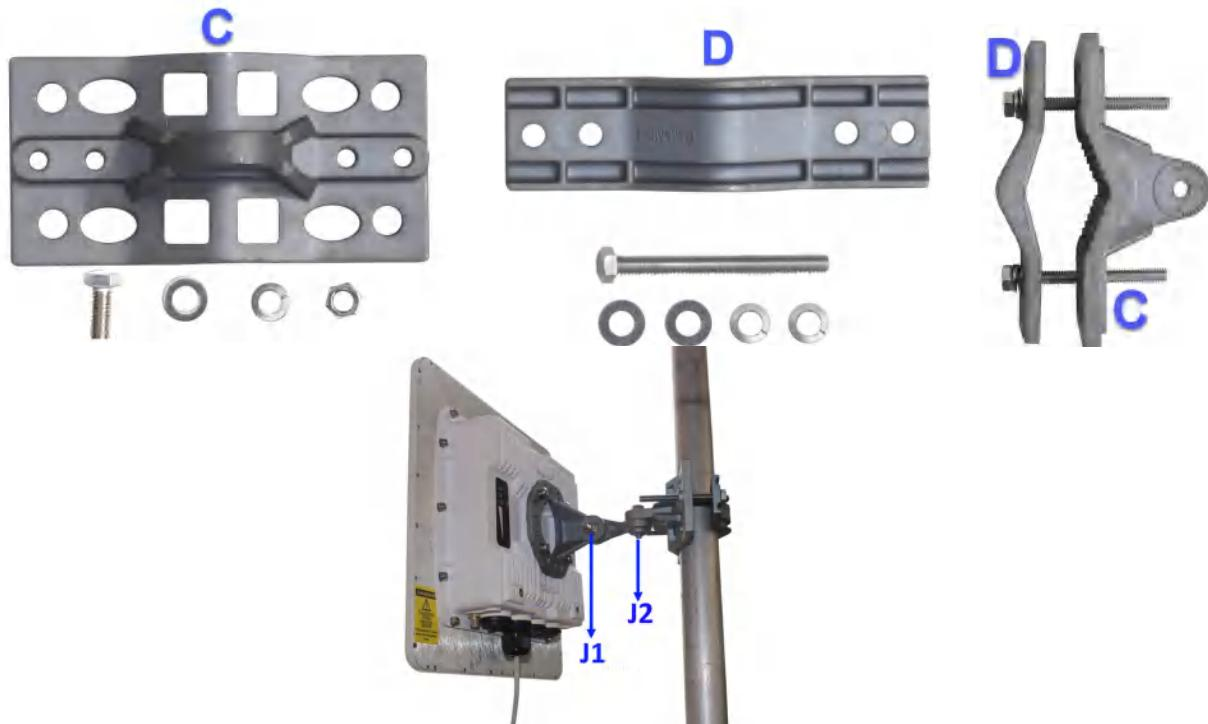

Figure 4-3 Pole Mounting
1. To pole-mount the device, insert the provided bolts through Bracket (D), mate with Bracket (C) around the pole, and secure with supplied washers torquing to 100 Lbf-in (115Kgf-cm). The supplied bolts (Hex. bolt 5/16" x 4" long) are designed for pole diameters from 32 to 89mm (1.25 to 3.5 inches).
2. Fix the fixed Extension Arm (B) to the Mounting Bracket (C) with the provided bolt, nut, and washers. Partially tighten the joints J1 and J2 to allow for alignment of the device.
4. While installing the device, make sure that the device Ethernet Port-1 with cable installation (using cable gland) faces downward only as shown in Figure 4-3 below: